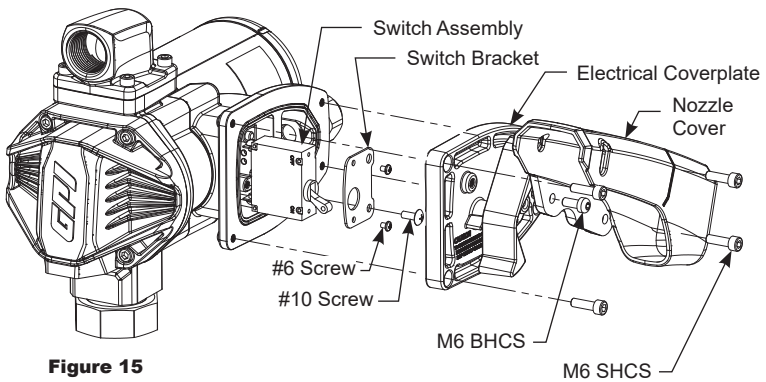

Figure 15
4. Remove the (4) M6 SHCS and electrical coverplate from the motor housing.
5. Remove the (1) #10 truss head screw and switch bracket with switch assembly (see Figure 15).
7. Unscrew both blade terminals and remove red pump wires from the back of the switch (see Figures 15 and 16). Take note of which wire is attached to each blade terminal for reinstallation.